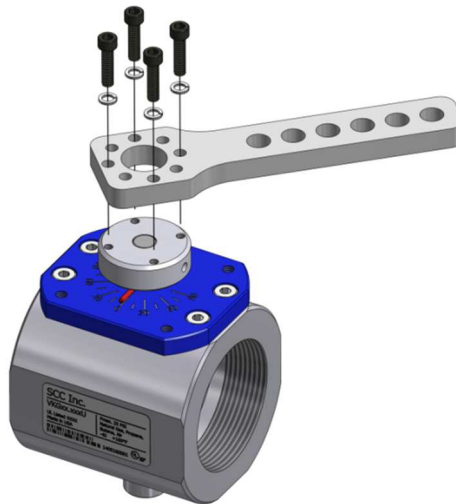

Figure 3: Crank Arm Installation
2. Using a 5/32" hex key, the (4) #10 split lock washers, and the (4) #10-24 x 3/4" socket cap screws, fasten the crank arm to the threaded holes in the shaft adapter as shown in Figure 3 below. Note that the crank arm can be installed in (8) different positions relative to the valve to easily connect to the rest of the linkage system.